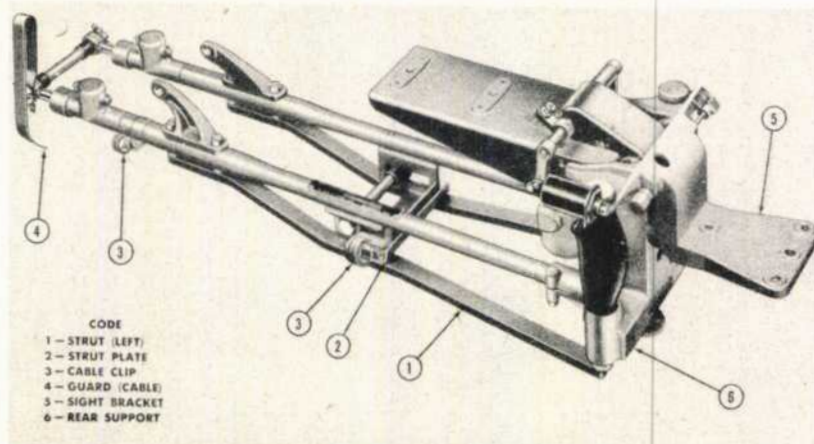

Figure 3—Type E-13 Adapter—Complete
b. The type E-13 adapter is in all respects similar to the type E-11, with the exception that provisions and necessary changes are made for the mounting of a type K-13 compensating gun sight. (See figure 3.)
(2) THE TYPE E-13. (See figure 3.)—The type E-13 adapter consists of an E-11 adapter with the addition of two struts (1) and strut plate (2), cable clips (3), guard (4), and bracket (5) for the type K-13 sight. The rear support for the handgrips of the type E-11 adapter has been replaced by a widened rear support (6) on the E-13 adapter to accommodate the type K-13 gun sight and bracket without interference to the easy operation of the gun.